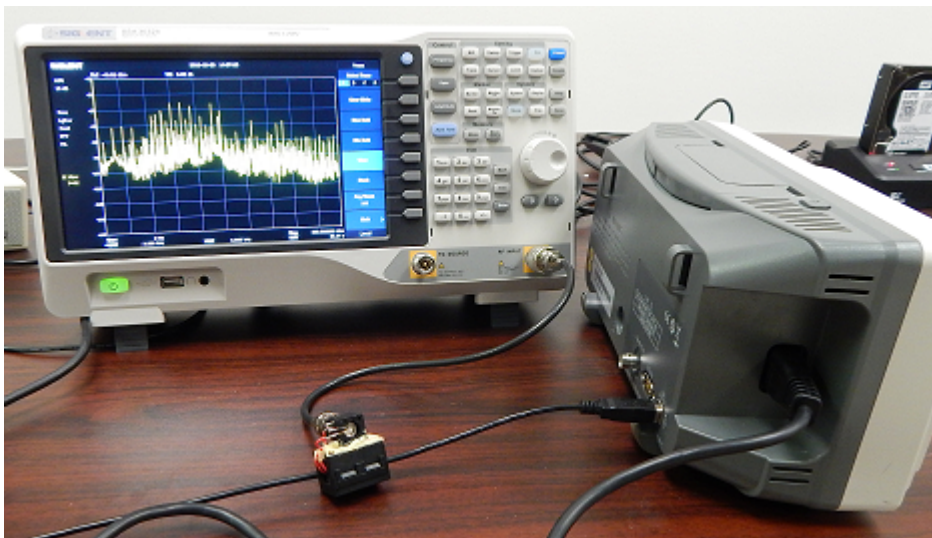

Figure 8: Measuring the RFI of a USB cable connected to a scope.
- Test all of the cables that could be connected to the DUT. This includes the power cord, USB, Ethernet, and any other possible connections (**figure 8**)